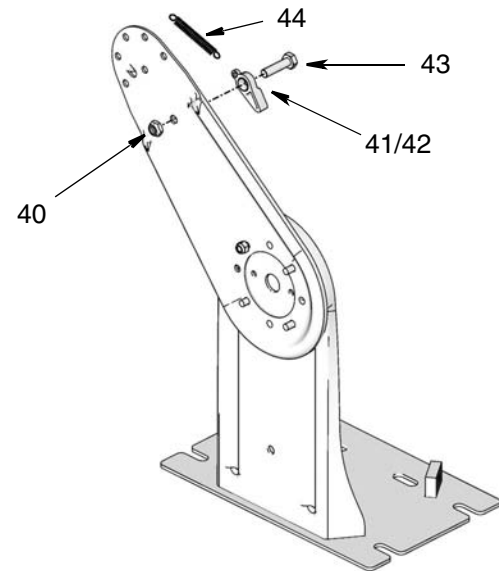

FIG. 10
1. Install new pawl (42), bushing (41), spring (44), nut (40) and bolt (43) to guide arm (30). Tighten bolt securely (FIG. 10).